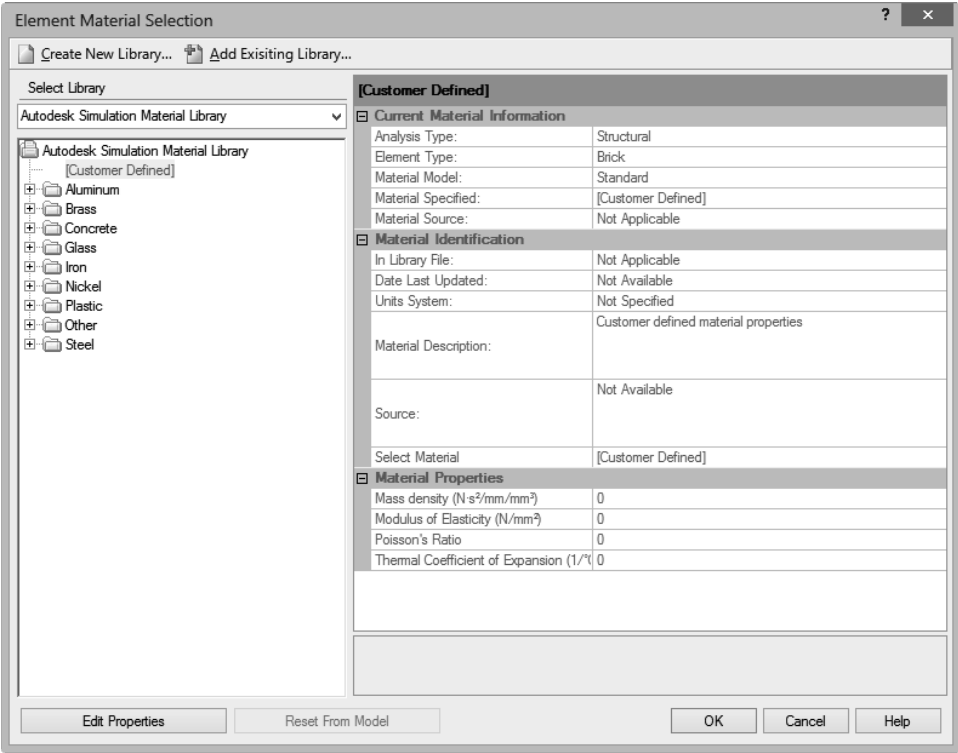

Figure 8-77 The *Element Material Selection* dialog box
- 1. Expand the **Part** node by clicking on the + sign available on its left in the **Tree View**. Next, right-click on the **Material <Unnamed>** option available under the **Part** node in the **Tree View** and then select the **Edit Material** option from the shortcut menu displayed; the **Element Material Selection** dialog box will be displayed, refer to Figure 8-77.